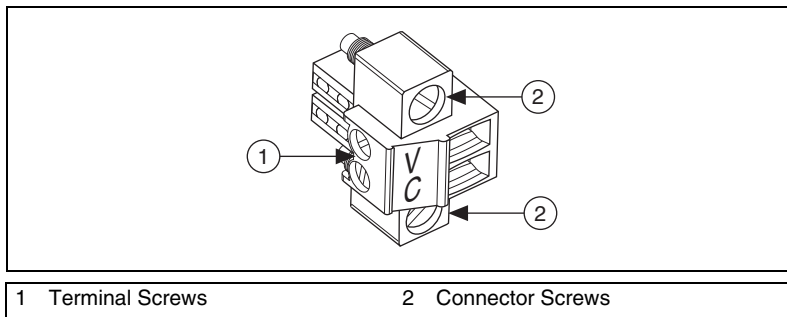

Figure 13. COMBICON Power Connector
2. Connect the positive lead of the power supply to the V terminal of the COMBICON power connector shipped with the cRIO-9075/9076, and tighten the terminal screw. Figure 13 shows the terminal screws, which secure the wires in the screw terminals, and the connector screws, which secure the power connector on the front panel.